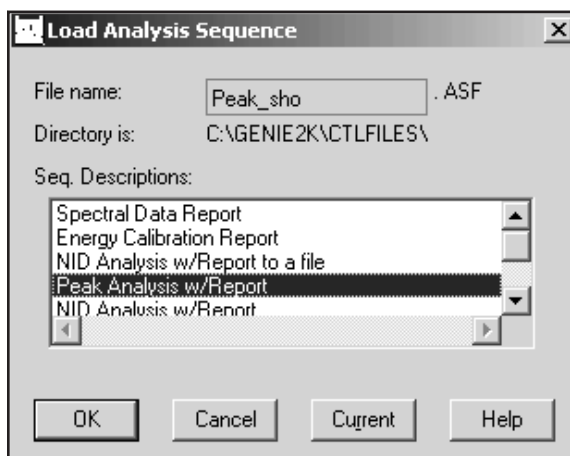

Figure 137 Loading a Sequence
**Load** (Figure 137) lets you load a defined sequence, populating the Current Steps list box with the sequence’s steps and loading their associated setup parameters.